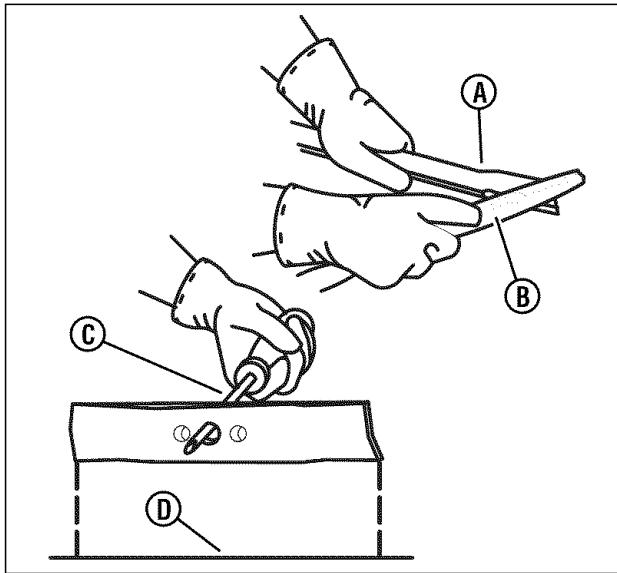

Figure 23: Sharpening the blade
4. Sharpen the blade (**A**, **Figure 23**, next page) with a file (**B**). Make sure you keep the original beveled cutting edge.